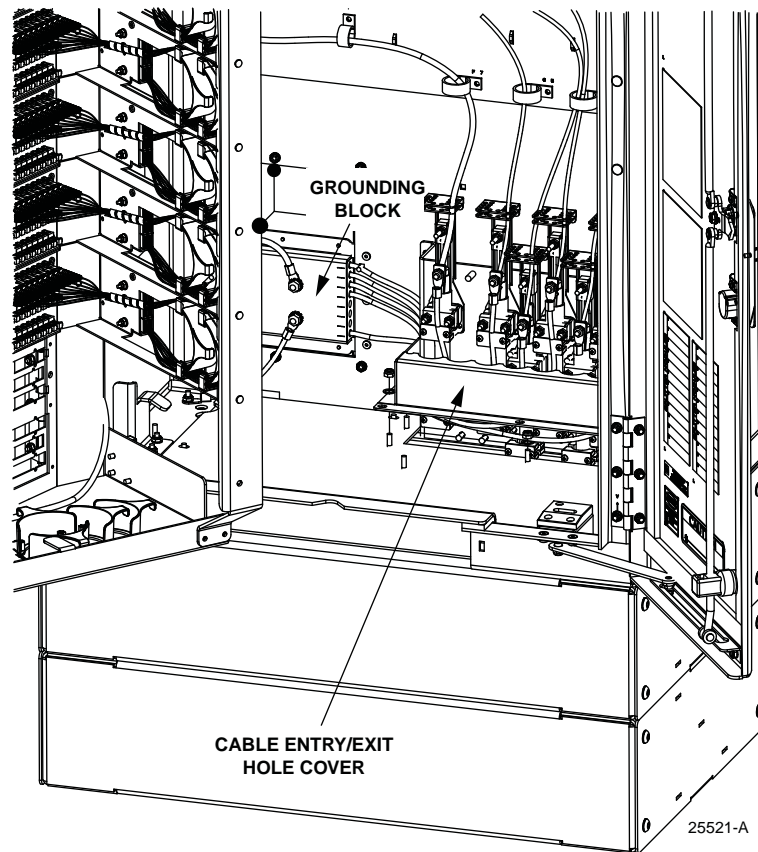

Figure 19. Cable Entry/Exit Hole Cover
1. Remove the nuts that secure the cable entry/exit hole cover to the bottom of the cabinet as shown in Figure 19. Save nuts for reuse.